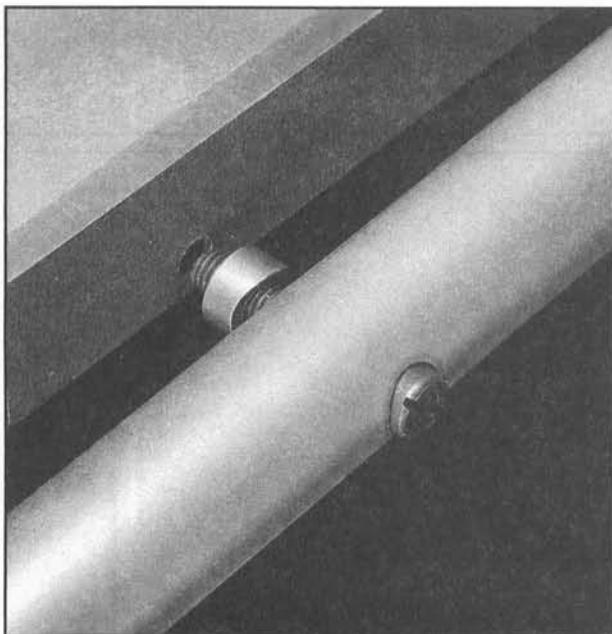

Figure 19.
1. The two center bolts for each rail thread directly into the table top, the outer two bolts secure from the back side of the extension wing with hex nuts. **Figure 19.** *Be sure that the rail with the built-in measuring rule is mounted on the front side of the machine, with the markings facing up.*